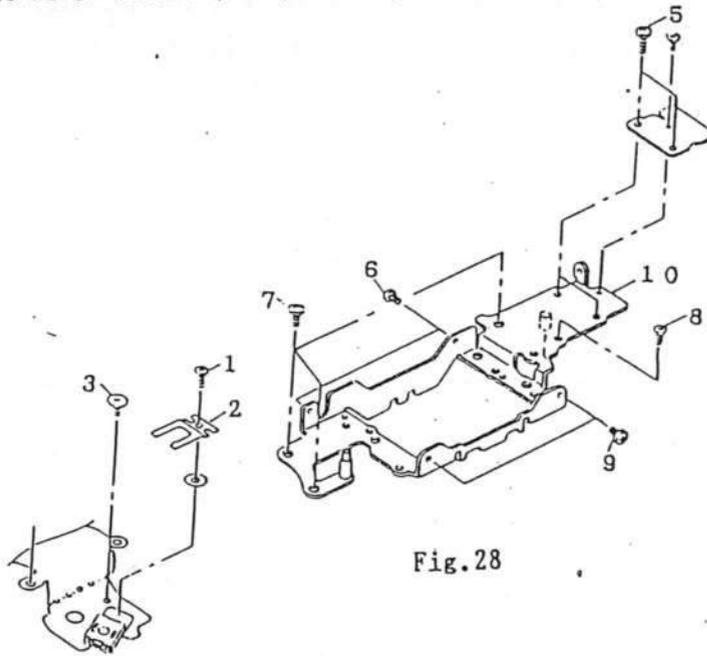

Fig.28
5. Upper base Plate (Fig. 28, 29)